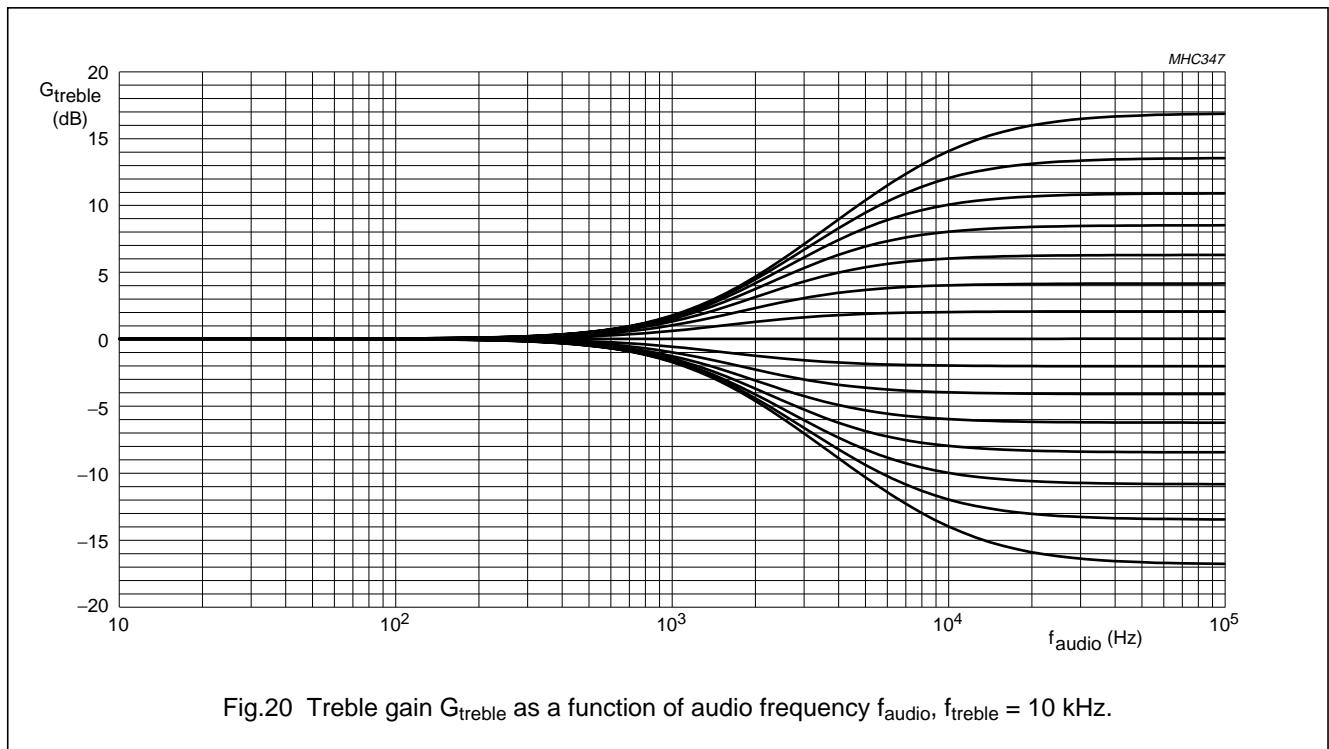

Fig.20 Treble gain  $G_{treble}$  as a function of audio frequency  $f_{audio}$ ,  $f_{treble} = 10$  kHz.
**Table 50** Description of data byte EH, see Fig.20